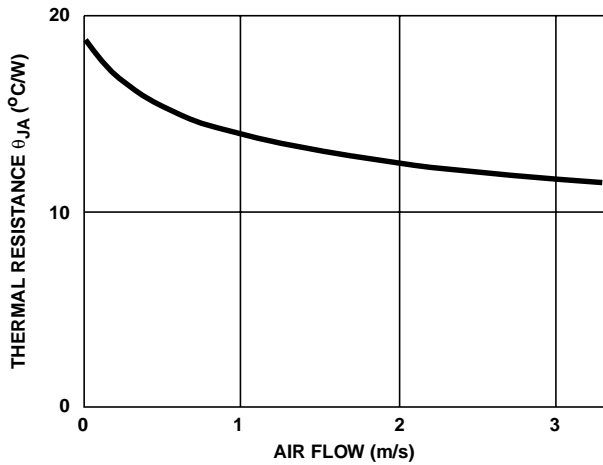

FIGURE 2. THERMAL RESISTANCE MOUNTED ON-BOARD
5. T_A is specified in still air and without heatsink. To extend temperature range, appropriate heat management techniques must be employed (See Figure 2).